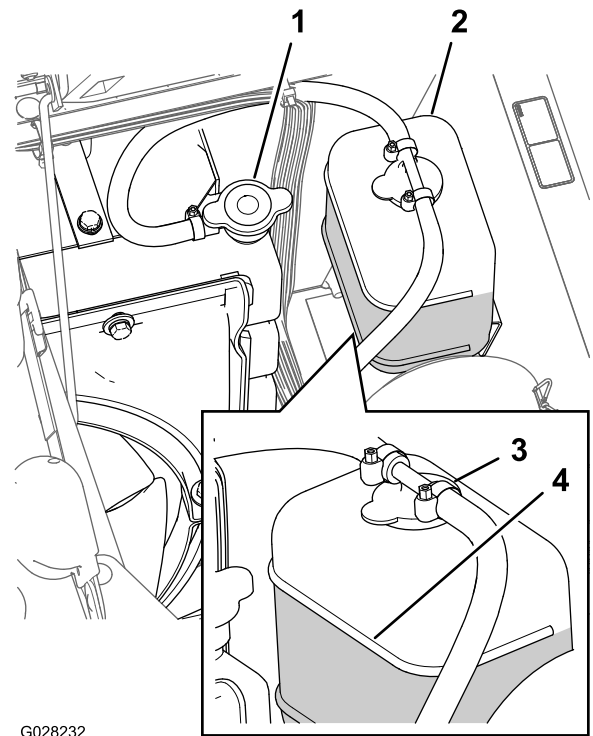

Figure 88
3. Carefully remove the radiator cap and the expansion-tank cap (Figure 88).
Note: The radiator should be filled to the top of the filler neck and the expansion tank filled to the Full mark on the tank (Figure 88).
5. If the coolant level is low, remove the expansion-tank cap and the radiator cap, and fill the expansion tank to the Full mark and the radiator to the top of the filler neck (Figure 88).
6. Install the radiator cap and the expansion-tank cap (Figure 88).
2. Wait until the engine is cool, then remove the radiator cap (Figure 88).
6. Remove the radiator cap (Figure 88).
8. Start the engine with the cap loose on the radiator (Figure 88).
10. Once the coolant has warmed up, top off the coolant level to the sealing surface of the cap and tighten the cap (Figure 88).
11. Open the expansion-tank cap and fill the tank with coolant to the Cold level (Figure 88).